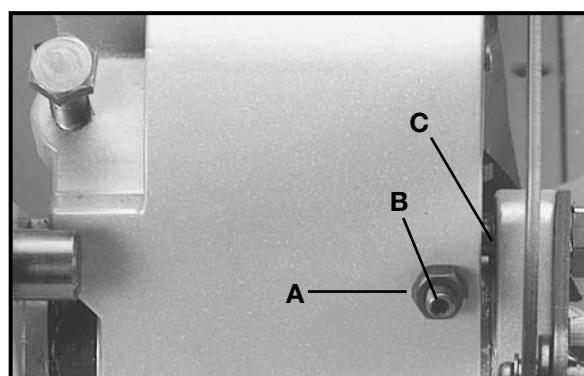

Fig. 33
- The downward travel of the saw blade can be limited to prevent the saw blade from contacting any metal surfaces of the machine. This adjustment is made by loosening locknut (A) Fig. 33, and turning adjusting screw (B) in or out until other end of screw (B) contacts stop (C) at the full downward travel of the saw blade.
- When making this adjustment, **MAKE SURE THE MACHINE IS DISCONNECTED FROM THE POWER SOURCE** and lower the blade as far as possible. Rotate the blade by hand to make certain the teeth do not contact any metal surfaces and adjust if necessary. After adjustment is completed, tighten locknut (A) Fig. 33.